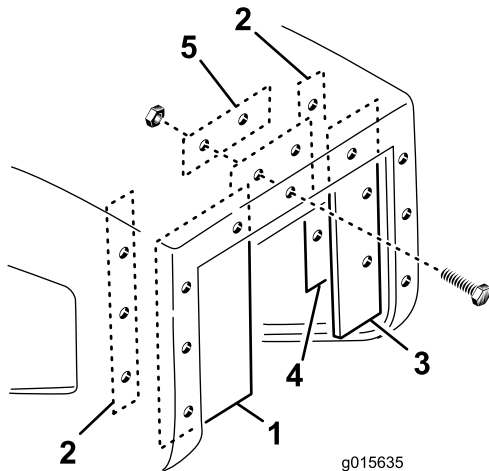

Figure 22
1. Secure the wide shield to the left inside lip of the hopper opening with a long flat, (3) #10 x 1 inch screws and #10 flange nuts (Figure 22).
screws and #10 flange nuts (Figure 22). Use the (2) mounting holes on the right side of the opening only.
2. Secure the narrow shield to the right inside lip of the hopper opening with a long flat, (3) #10 x 1 inch screws and #10 flange nuts (Figure 22).
3. Secure the top shield to the upper inside lip of the hopper opening with a short flat, (2) #10 x 1 inch